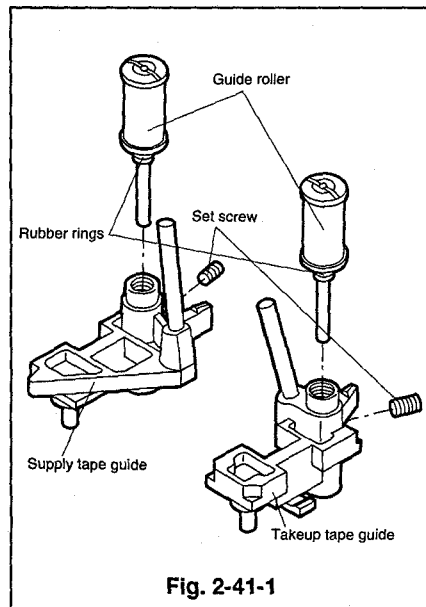

Fig. 2-41-1
- ① Loosen the set screws with a hexagon key so that the guide rollers rotate freely.
- ② Turn the height adjustment screws at the top of the guide rollers counterclockwise with a height adjustment screwdriver to loosen them. Lift the guide roller upward to remove them from the tape guides. (Refer to Fig. 2-41-1)